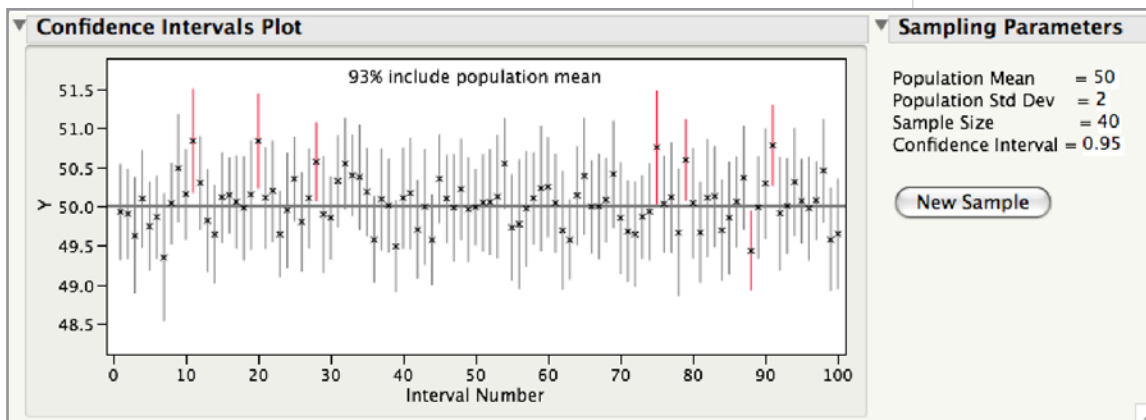

Figure 3. Confidence Interval for the Mean Simulation.
JMP provides a nice simulator for the confidence interval for the mean that helps us visualize and understand the interpretation of degree of confidence, as described above. The simulation, modified to mimic the resistance situation, generates 100 samples of size 40 from a normal distribution with mean 50 Ohms and standard deviation 2 Ohms. For each sample, a 95 percent confidence interval for the mean is calculated, using Equation (1), and the “yield” of this process (how many intervals out of a hundred contain the true mean of 50 Ohms) is calculated. Figure 3 shows one of these simulations for which 96 percent of the intervals include the true population mean of 50, in agreement with the 95 percent statement. Clicking on the **New Sample** button generates a new set of intervals. By doing this repeatedly, you will see that sometimes 94 percent of the intervals contain the true mean, others 97 percent, etc, but in the long run the average confidence turns out to be 95%.